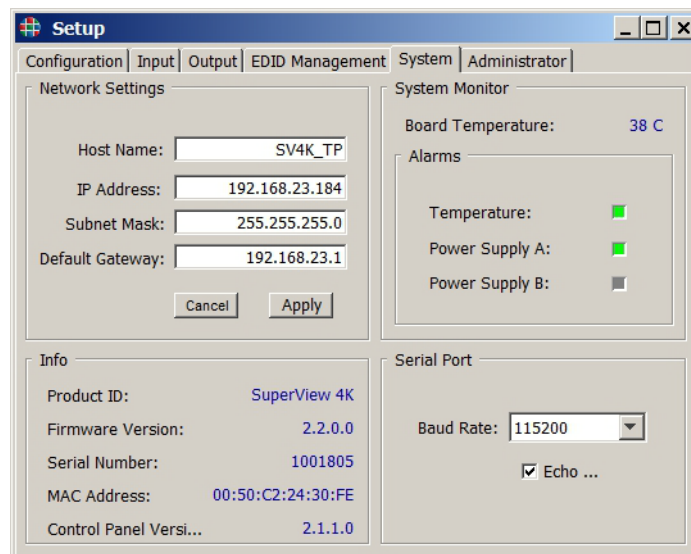

Figure 4-11 Setup System Tab
The **System** tab is shown in Figure 4-11.
2. Select the **System** tab (Figure 4-11).
2. Select the **System** (Figure 4-11).